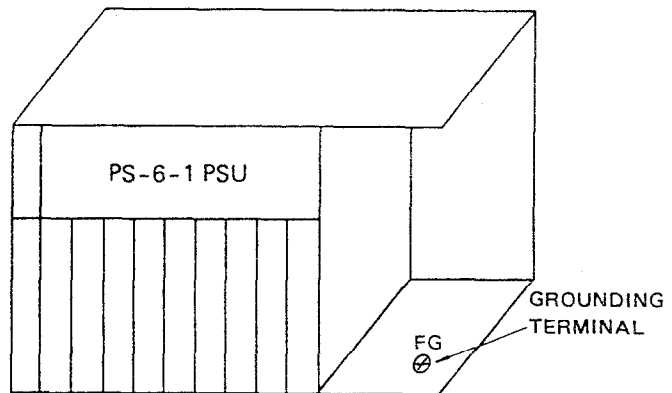

Fig. 120-1 Outsideview of ES-6-1
3. In the case where a ground other than conduit ground is used a grounding terminal is provided on the ES-6-1 as shown below in Figure 120-1.